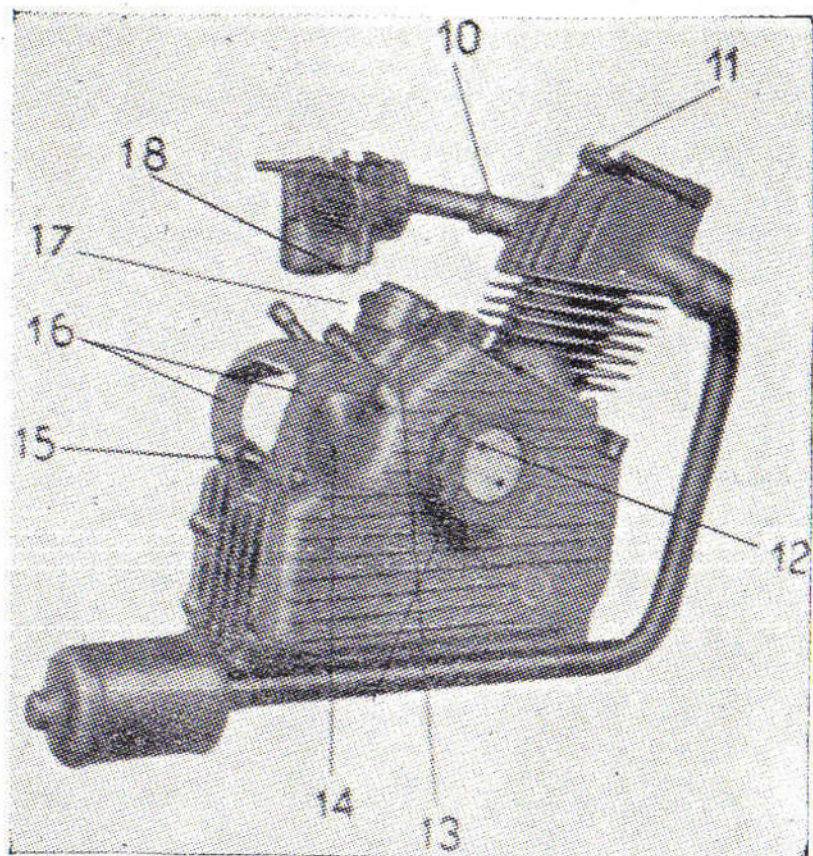

Fig. 6
(c) The carburettor should be perfectly level. Its position can be corrected by loosening the round screw (10) (fig. 6), which locks the induction pipe to the motor. Fit the Bowden cables, which are supplied already connected to their levers, to the carburettor, the Bowden wire to the throttle is threaded in the hole of the little thimble on the lever of the carburettor throttle and locked with the screw. The Bowden wire for the valve lifter is fixed to the top part of the cylinder head
The cause is an obstruction in the main carburettor jet (18) (Figure 6). Unscrew and blow energetically with the mouth or with the type pump and screw on again.
Adjustment of clearances can be effected readily by loosening the top (locking) nut of the rod (11) (Figure 6) and setting clearance by turning the second nut. One full turn of the nut will correspond to a difference of 15/1000 of an inch. Oil occasionally the operating-arm bushings on cylinder head.